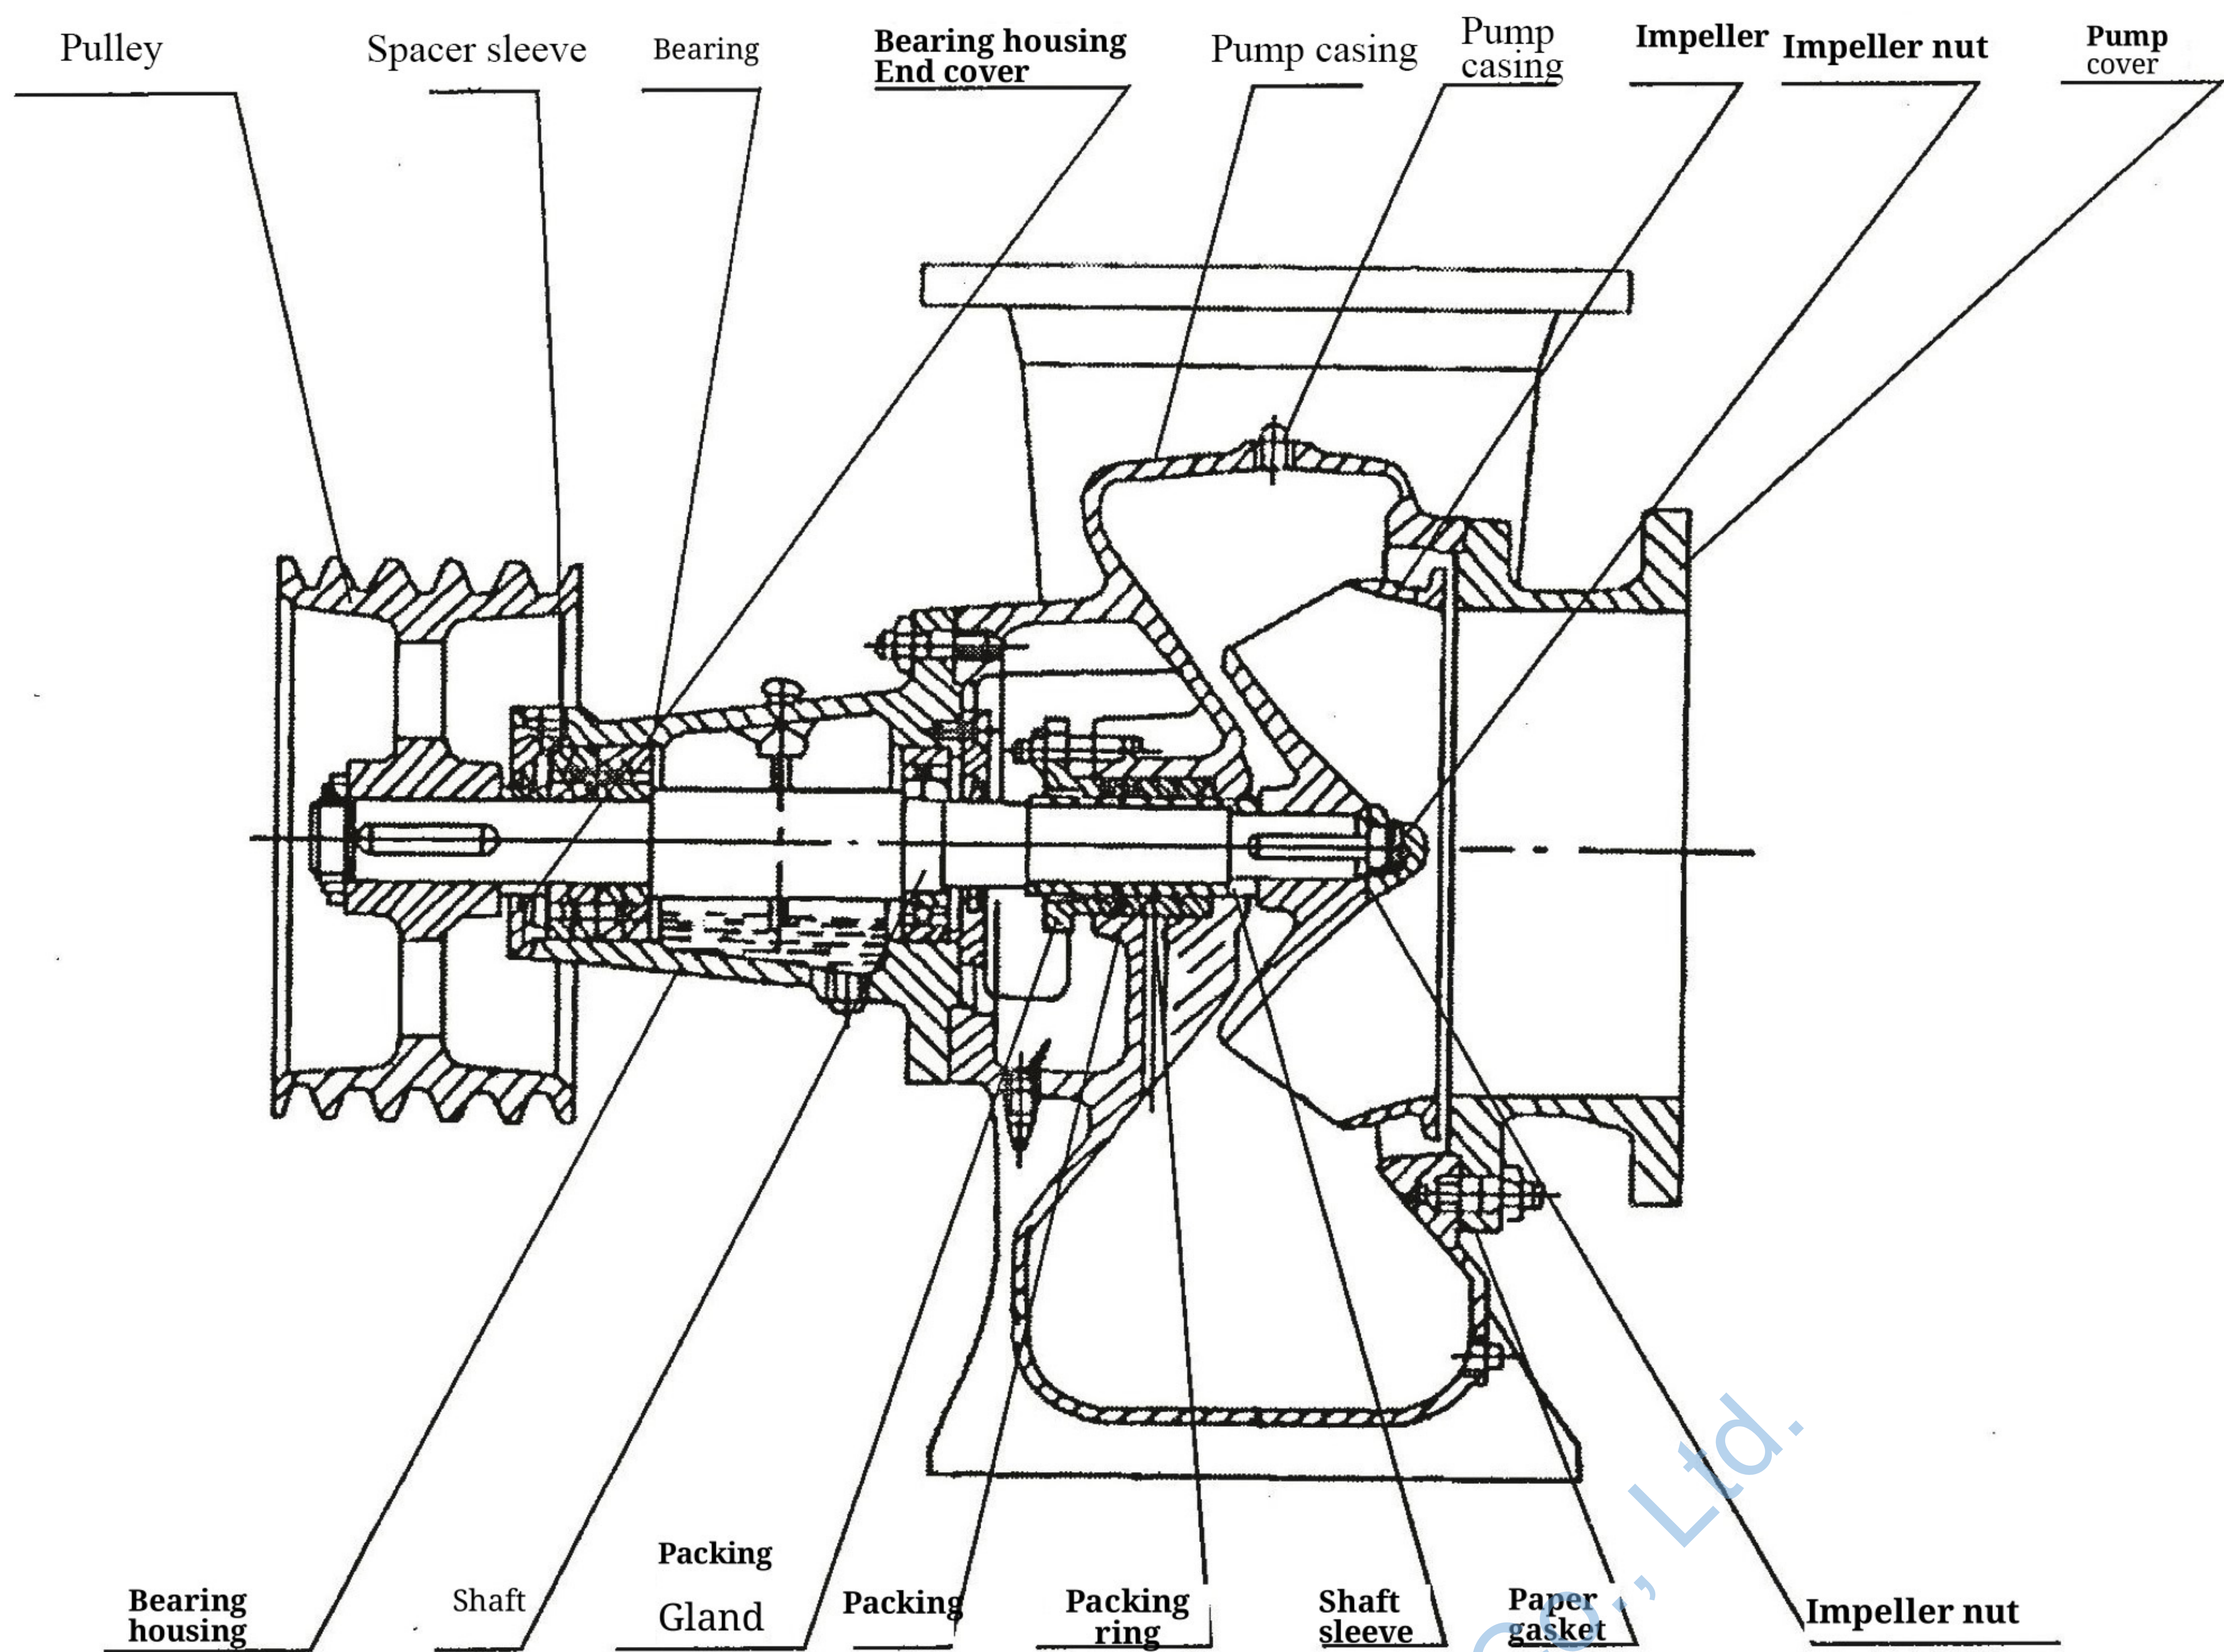

Figure 1: Structural Diagram of 100-350HW Pumps (The 350HW-8 pump is available in both upward and horizontal discharge configurations)
1. The HW-type pump consists primarily of the pump cover, impeller, pump casing, pump shaft, shaft sleeve, and bearing housing (for diameters ≤ 350 mm) or bearing bracket (for diameters ≥ 400 mm) (Figs. 1 and 2).